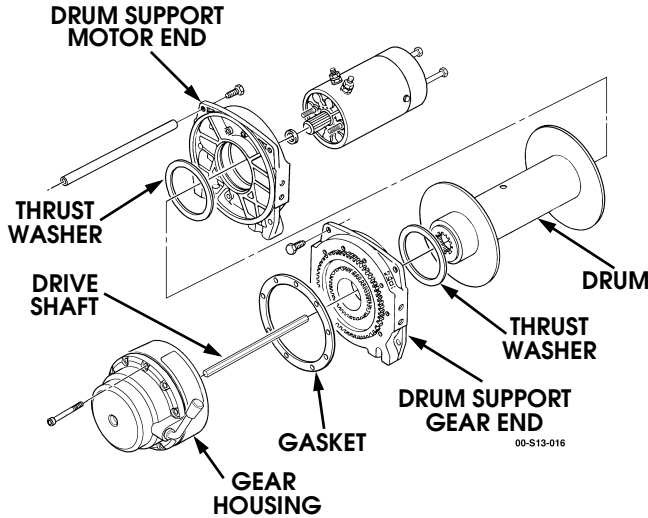

Figure 9-195: Drum Assembly and Gear Housing Assembly
1. Inspect drum for damage to splined end flanges and tube (Figure 9-195). Replace winch if damaged.